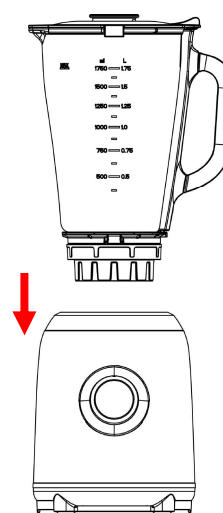

Fig.5
3) Finally, place the assembled jar onto the motor unit by aligning the strip on the assembled jar bottom. (See Fig.5)